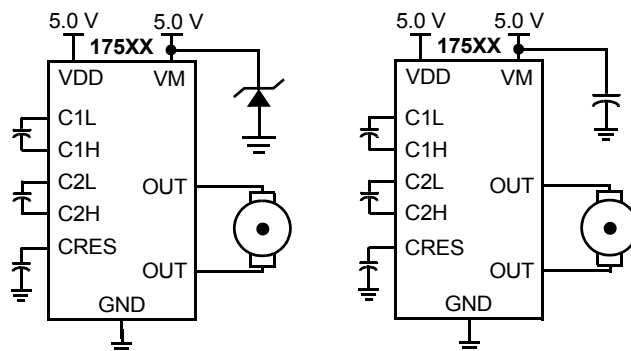

Figure 8. CEMF snubbing techniques
Care must be taken to protect the IC from potentially damaging CEMF spikes induced when commutating currents in inductive loads. Typical practice is to provide snubbing of voltage transients by placing a capacitor or zener at the supply pin (VM) (see Figure 8).